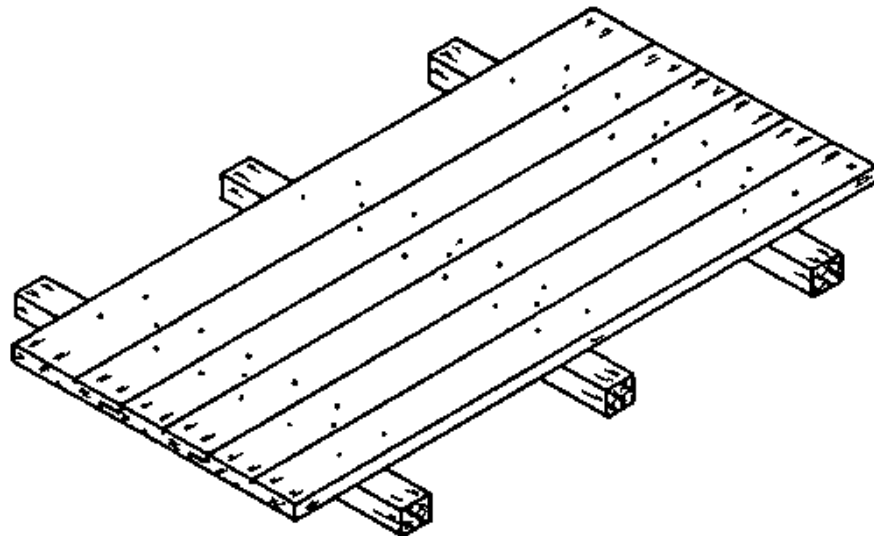

Fig. 4
- m. Turn the door over put three pieces of wood under the ledges for support during nailing (Fig. 4, previous page).
- REMEMBER: To avoid splitting the wood, always blunt the nails and drive them in a staggered pattern (Fig. 4, previous page). Clench all the nails to prevent them from being pulled out if the wood warps or swells. For clenching, the nails have to be long enough to go through the wood and out the other side by about 5 mm (Basic Knowledge, pages 92 to 94).